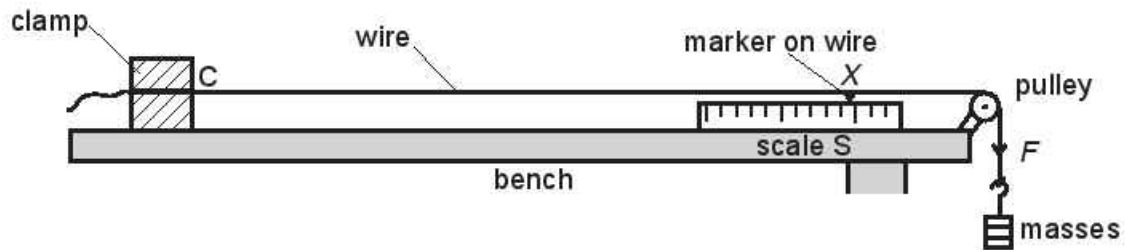

Fig. 3.1
- 23 The Young modulus of the material of a wire can be determined using the apparatus shown in Fig. 3.1.